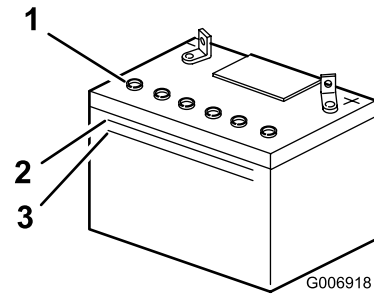

Figure 32
2. Look at the side of the battery. The electrolyte must be up to the upper line (Figure 32).
Note: Do not allow the electrolyte to fall below the lower line (Figure 32).
2. Remove the filler caps (Figure 32).
3. Slowly pour distilled water into each battery cell until the level is up to the lower part of the tube (Figure 32).